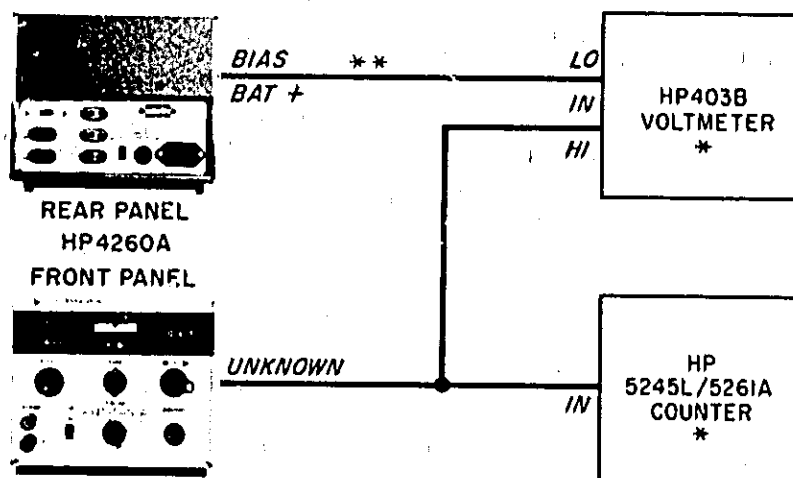

Figure 5-2. Internal Oscillator Check
- Connect equipment as shown in Figure 5-2.